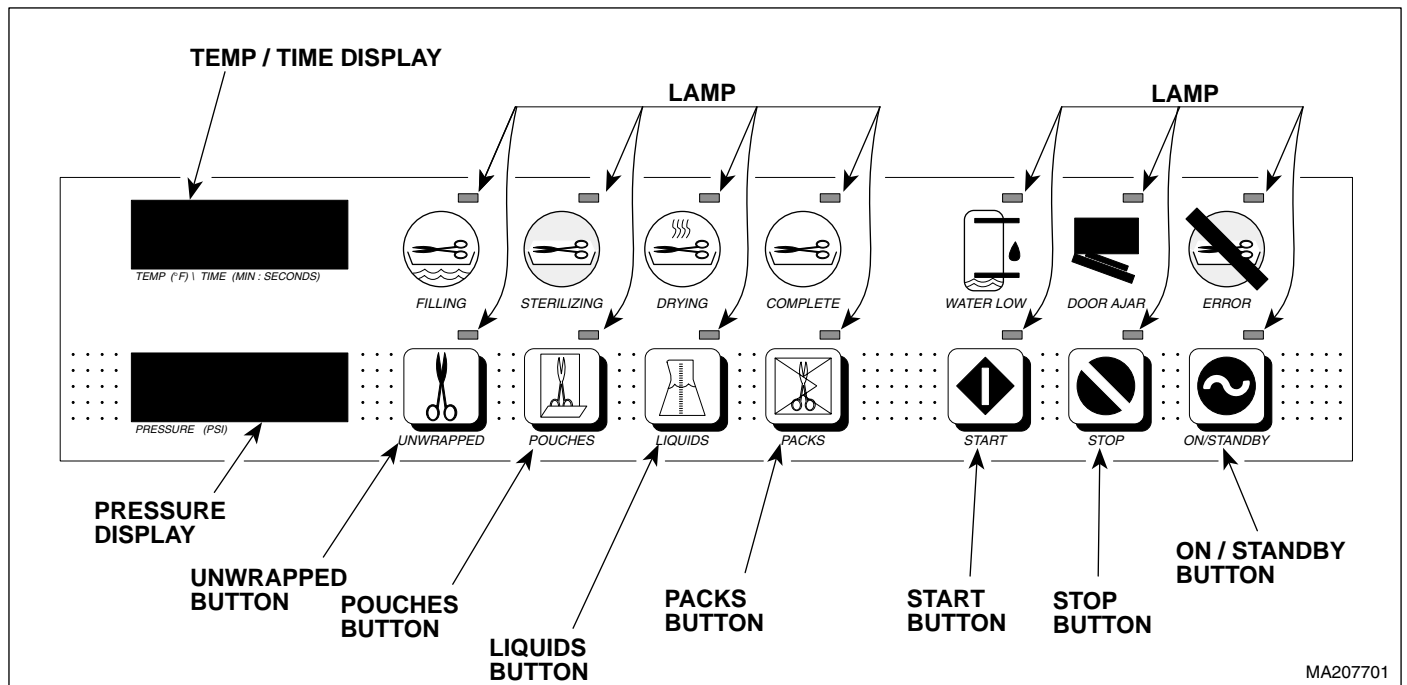

Figure 4-27. Display PC Board Lamp / Display / Button Check (M9 / M11 shown)
- (3) Press and hold down the LIQUIDS and PACKS buttons simultaneously while connecting the power cord to the sterilizer (See Figure 4-27). Release the LIQUIDS and PACKS buttons.
- (11) Press the START button to start a test/calibration cycle and wait until the temperature on the TEMP (°F) / TIME (MIN: SECONDS) display reaches 272 - 273°F (133-134°C) (See Figure 4-27).
- (13) Recheck the multimeter reading. It should still read 2.550 VDC \pm 0.001 VDC.
- (14) Press the STOP button to end the test/calibration cycle and allow the sterilizer to vent and open its door (See Figure 4-27).